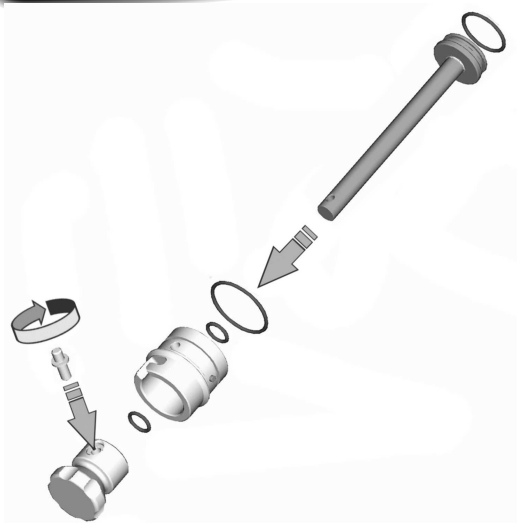

Fig.1
- Position the piston knob onto the rod and tighten the steel pin. Check that the piston runs easily in the seat (fig. 1).